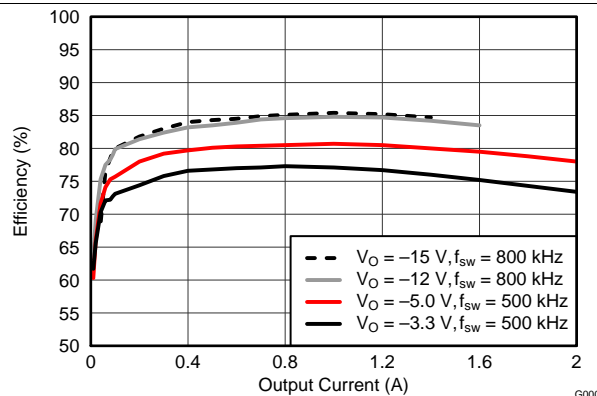
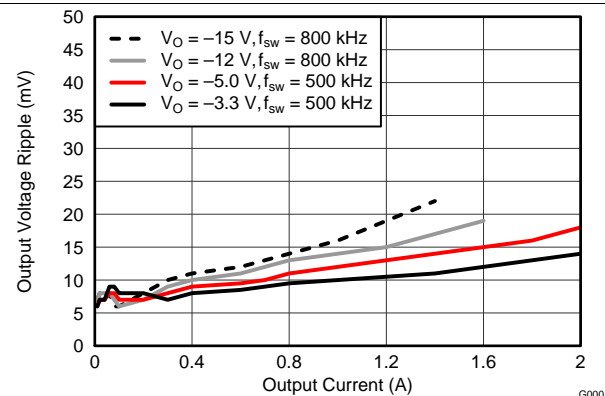
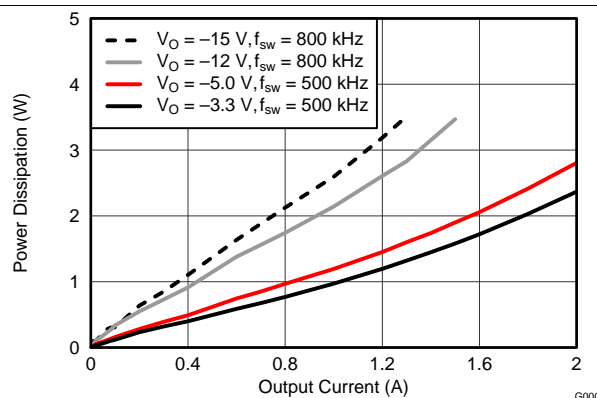

Figure 13. Efficiency vs. Output Current
Figure 14. Voltage Ripple vs. Output Current
Figure 15. Power Dissipation vs. Output Current
- (1) The electrical characteristic data has been developed from actual products tested at 25°C. This data is considered typical for the converter. Applies to Figure 13, Figure 14, and Figure 15.
- (2) At light load the output voltage ripple may increase due to pulse skipping. See Light-Load Behavior for more information. Applies to Figure 14.